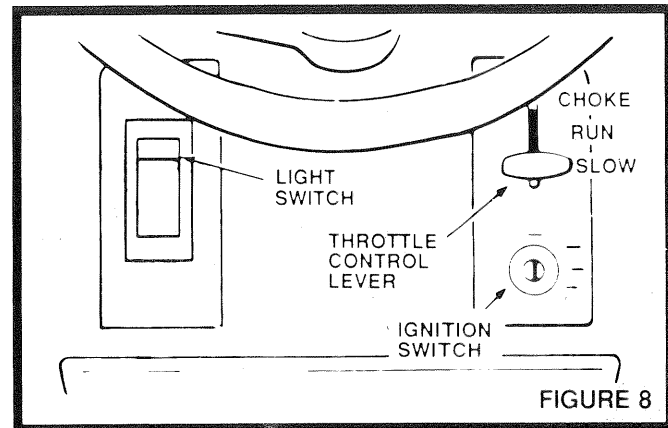

FIGURE 8
4. Move Throttle Control Lever to "CHOKE" position (Fig. 8).
5. Turn Ignition Key to "START" position until Engine starts (Fig. 8). Release key into "RUN" position.
Move Throttle Control Lever mid-way between "RUN" and "CHOKE" positions (Fig. 8). As engine warms up, move Throttle Control Lever to "RUN" position. **NOTE:** ALLOW ENGINE TO WARM UP FOR A FEW MINUTES BEFORE OPERATING.